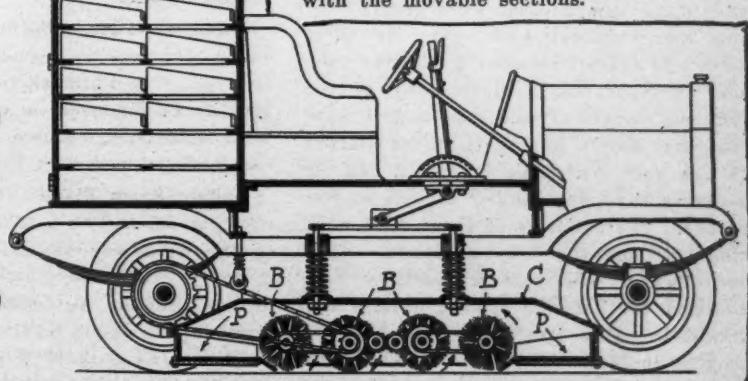

FIG. 4—BROOKS' MOTOR CAR STREET SWEEPER
**Motor Car Street Sweeper**—No. 982,570, dated January 24; to Carmen C. Brooks, Haxtum, Colo.—As illustrated in Fig. 4, this patent pertains to means of adapting the motor car to street-sweeping purposes. A yieldingly supported casing C movably mounted between the front and rear axles of the vehicle, supports removable pans P at either end thereof. A number of pairs of brushes B are revolvably supported by the casing near the ends, chains and gears are provided to drive the brushes and for revolving the respective pairs of brushes in opposite directions so that the sweepings are directed in the respective pans; and means are also provided whereby the operator of the vehicle may raise, lower or adjust the vertical position of the casing C. A rack for carrying extra pans is shown mounted behind the driver's seat.